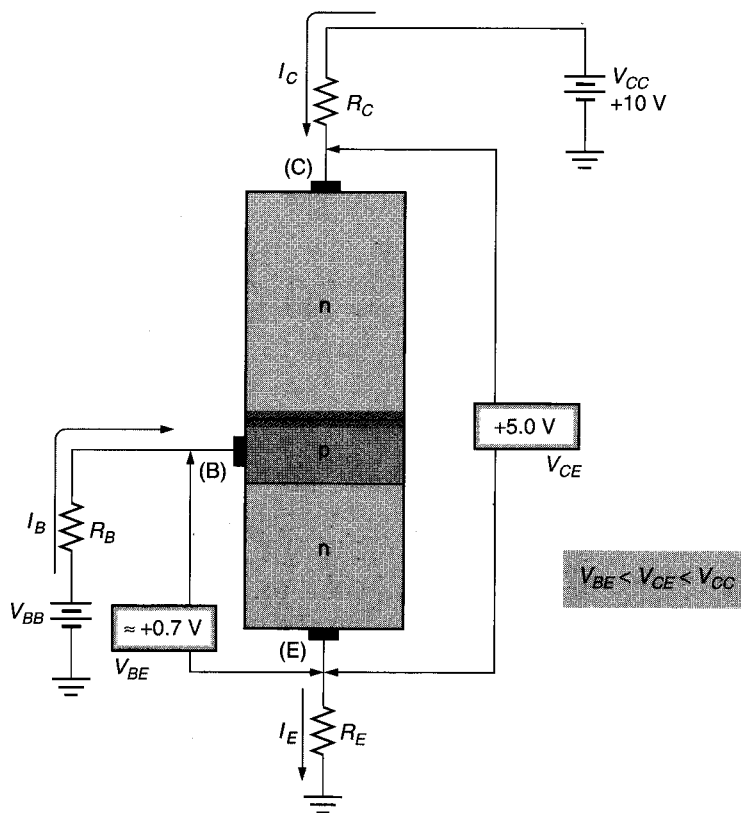

FIGURE 6.8 Active operation.
A transistor is said to be operating in the **active region** when the base-emitter junction is forward biased and the collector-base junction is reverse biased. Generally, the transistor is said to be in active operation when it is between cutoff and saturation. The biasing for active operation is illustrated in Figure 6.8.
- When current passes through any resistance, heat is generated. Based on Figure 6.8, which part of the BJT generates the greatest amount of heat?